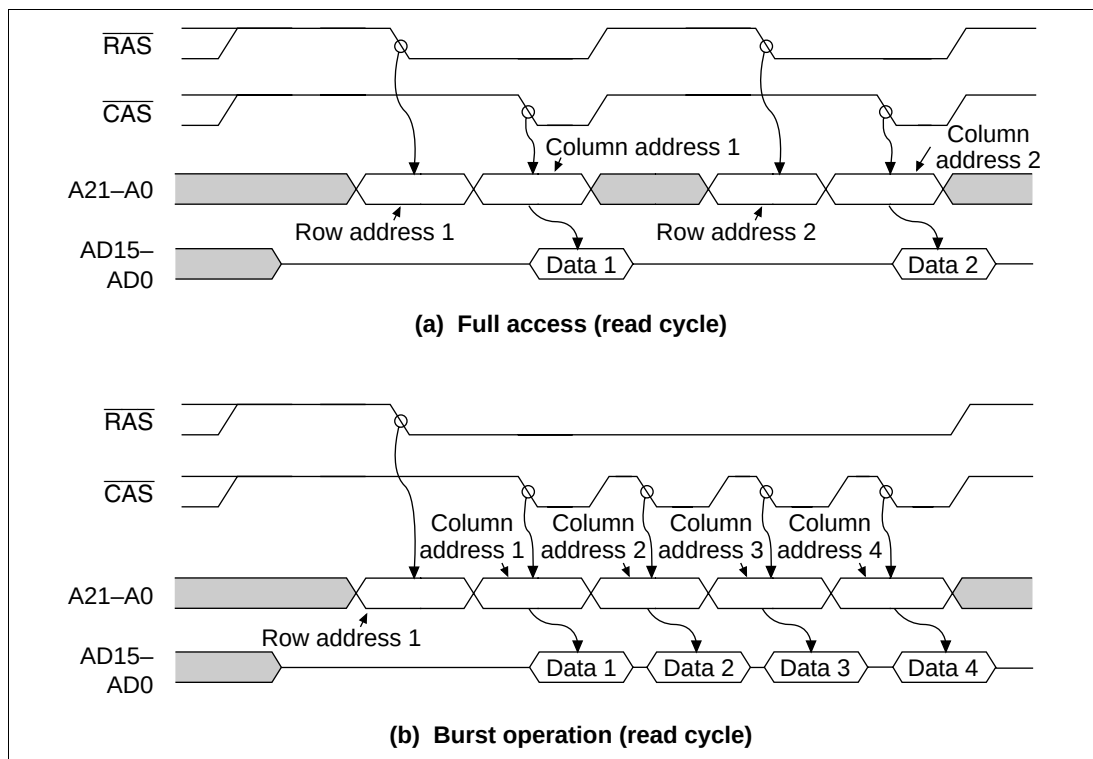

**Figure 8.22 Full Access and Burst Operation**
In addition to the normal mode of DRAM access, in which row addresses are output at every access and data then accessed (full access), the DRAM also has a high-speed page mode for use when continuously accessing the same row. The high speed page mode enables fast access of data simply by changing the column address after the row address is output (burst mode). Select between full access and burst operation by setting the burst enable bit (BE) in DCR. When the BE bit is set to 1, burst operation is performed when the row address matches the previous DRAM access row address. Figure 8.22 shows a comparison between full access and burst operation.